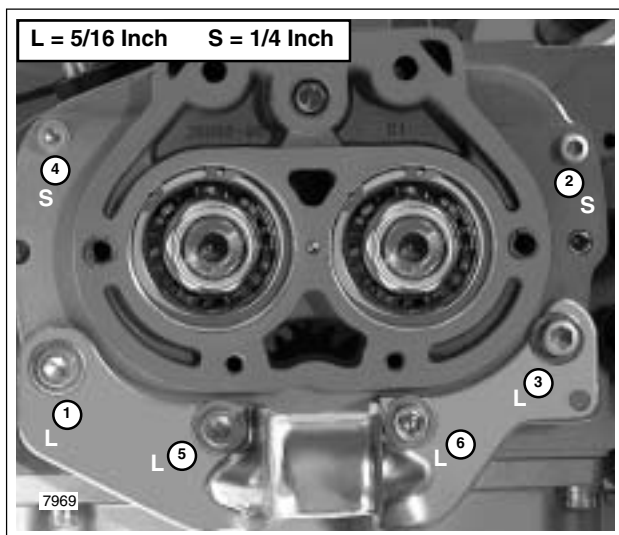

Figure 7-26. Side Door Screw Size and Torque Sequence
3. Resetting the torque wrench as necessary, tighten the four 5/16 inch screws to 13-16 ft-lbs (18-22 Nm) and the two 1/4 inch screws to 84-108 **in-lbs** (9-12 Nm) in the sequence shown in Figure 7-26.